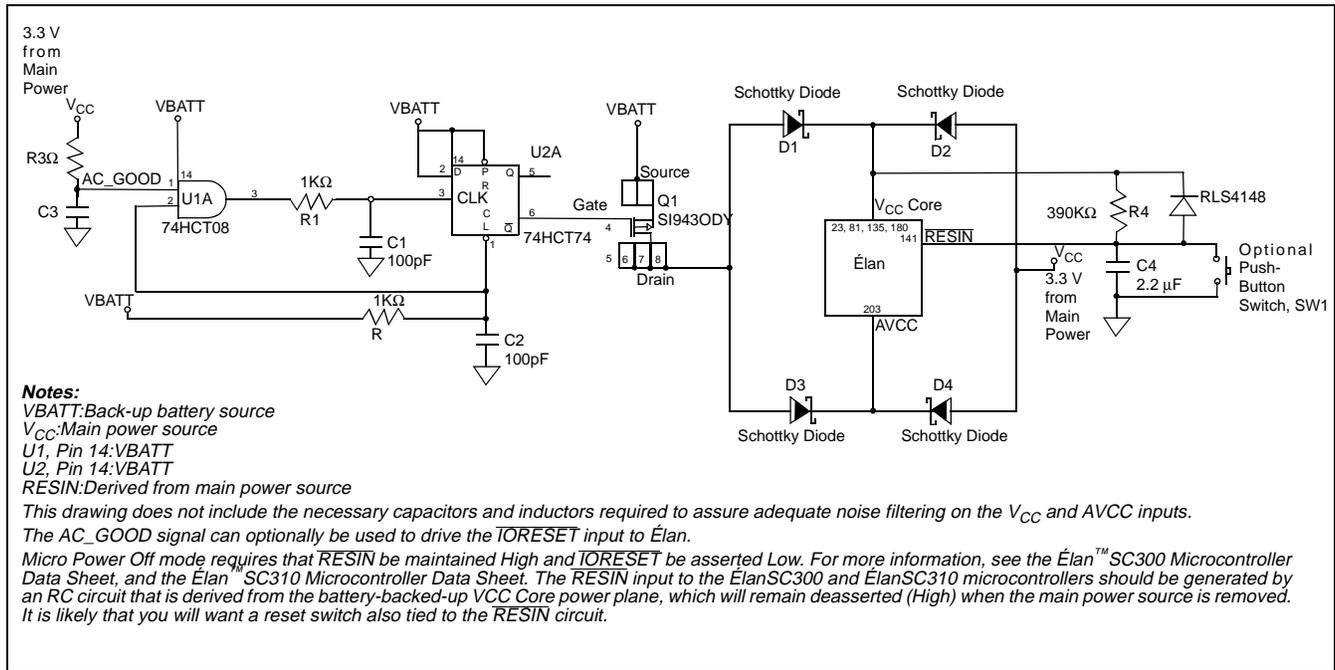

Figure 1. Clean-Transition Switching Circuit
■ You should implement a switching circuit to allow a clean transition from the main power source to the back-up battery source when the system is put into Micro Power Off mode. This circuit should also gate off the back-up source from the VCC and AVCC pins until a main power source is present the first time. See Figure 1 for a circuit example. Table 1 shows the materials required for this particular circuit.
- If the system design guarantees that the back-up battery will be in place before the main power source is present, the following components may be deleted from Figure 1: U1, R1, and C1. The AC_GOOD input of U1 would then be tied directly to U2, pin 3. This is because the CLK input of U2 must only be clocked when VBATT is present. The AC_GOOD signal can also be used to drive the $\overline{IORESET}$ input to the ÉlanSC300.